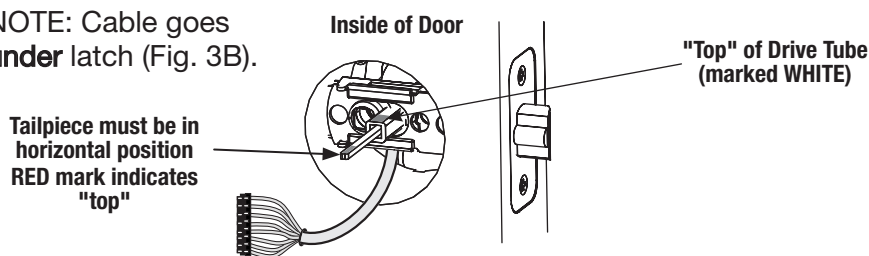

Figure 3B
- B. Ensure tailpiece is oriented in the horizontal position (Fig. 3B) and insert tailpiece through center of latch so that outside escutcheon is flush to the surface of the door.
**NOTE:** Cable goes **under** latch (Fig. 3B).